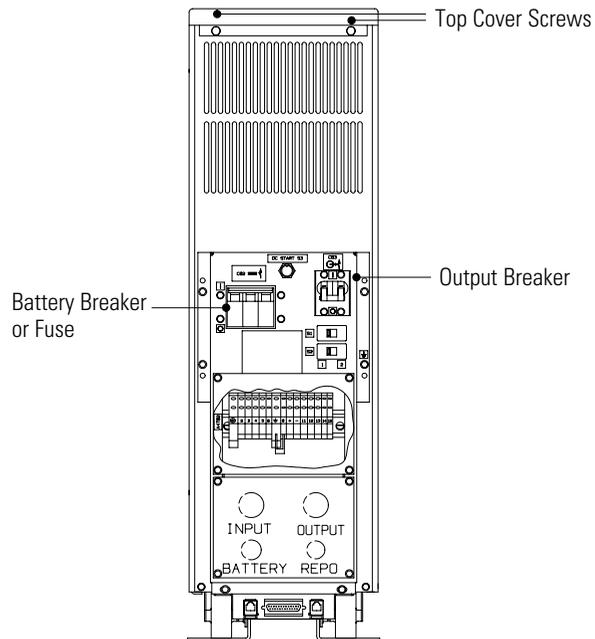

Figure 1. UPS Rear Panel (6 kVA and Below)
2. Switch the output breaker and battery breaker on the UPS rear panel to the OFF (O) position (see Figure 1). If your UPS has a battery fuse instead of a breaker, remove the fuse. Retain the fuse. Wait five minutes to allow internal discharging.